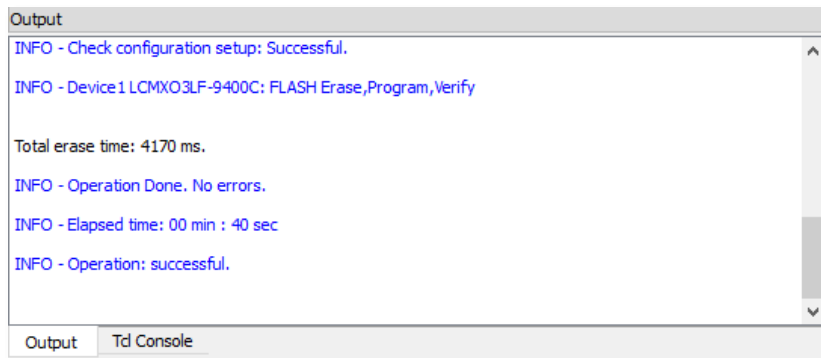

Figure 5.4. Output Console
7. Once programming is successful, the output console displays the message shown in Figure 5.4. If programming fails, press **Detect Cable** in the right pane of the programmer.